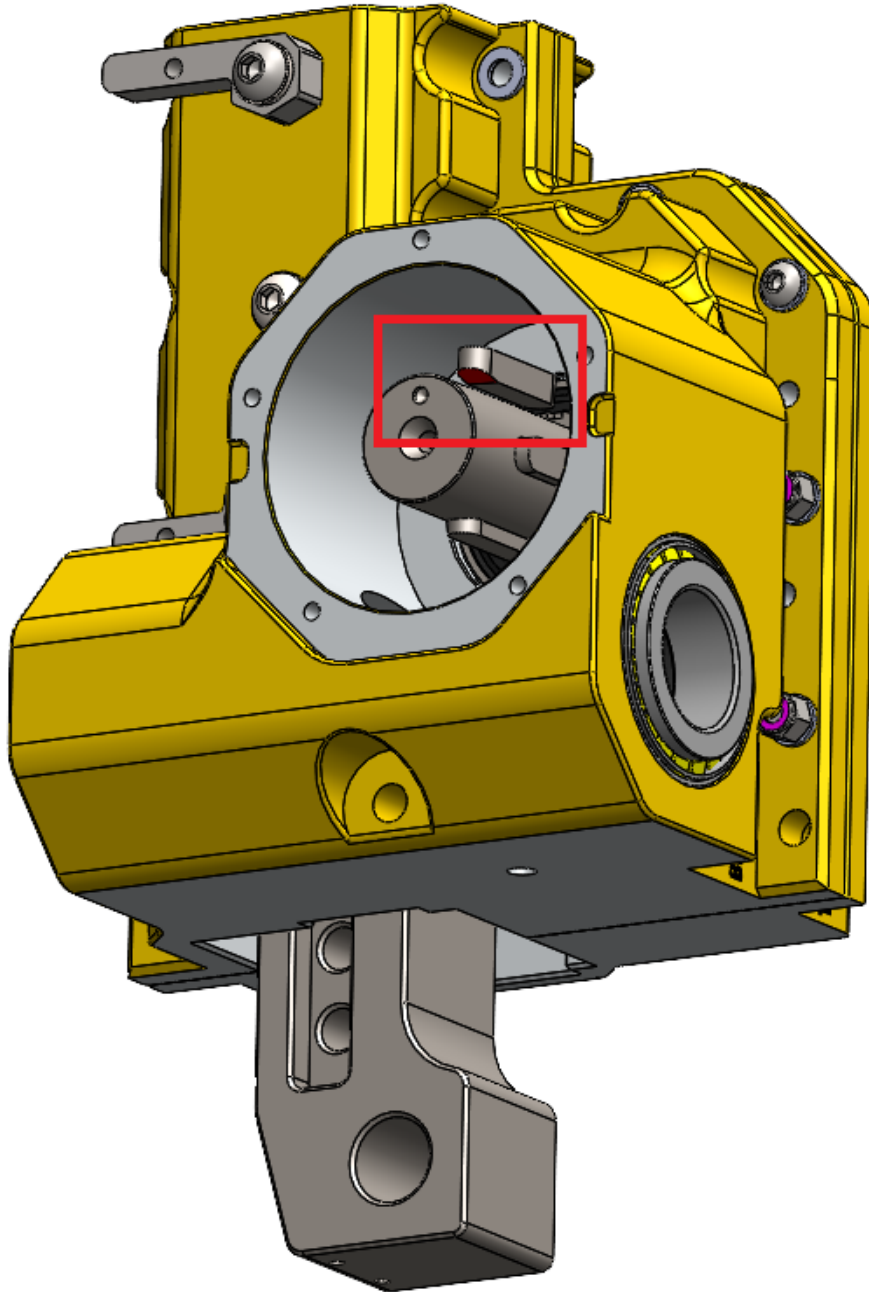

Figure 12
- q. With the rear cover (1-4/1) lying on the bench, install the 4 keys (1-4/20) on the shaft (1-4/16). See Figure 12.